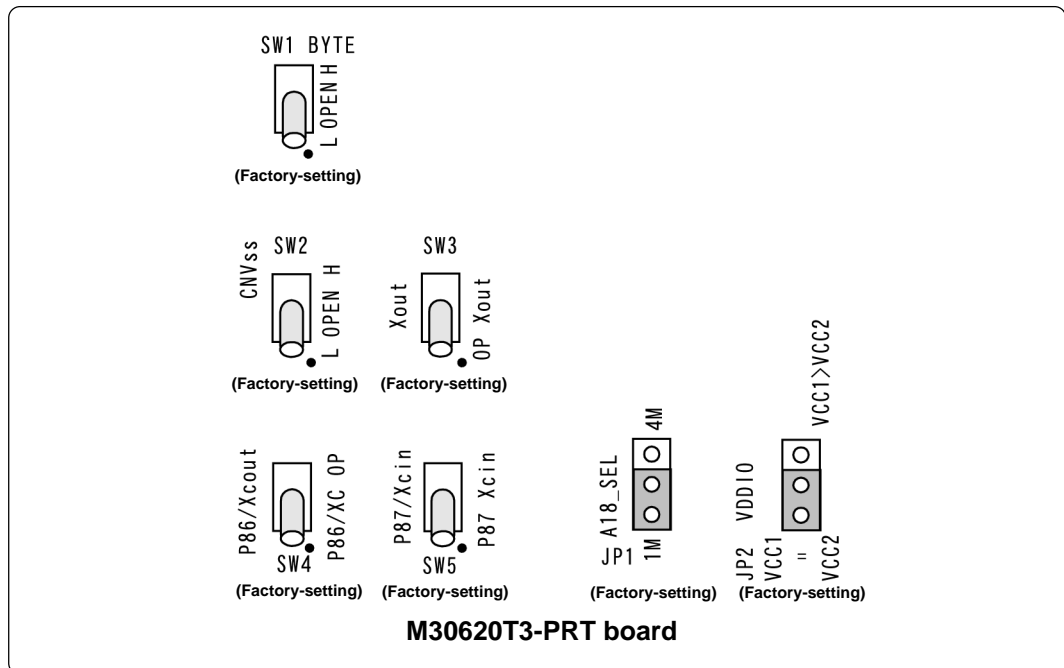

Figure 4.3 Switch settings (factory-settings) for the self-check
- (1) Set the switches in the emulation pod to the factory settings as shown in Figure 4.3.
- (2) If the target system is connected, disconnect it.
- (3) Within 2 seconds of activating power to the emulator, press the system reset switch on the emulator front panel to switch the emulator to maintenance mode.
- (4) Check the SAFE LED starts blinking and then press the system reset switch again.
- (5) The self-check will start. If the normal result is displayed in about 40 seconds, the self-check has terminated normally.
- Whether the switch settings of this product are the factory settings (Figure 4.3)